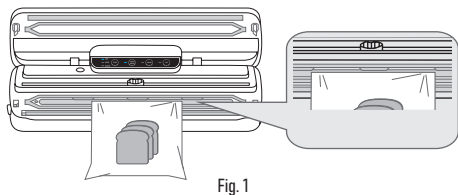
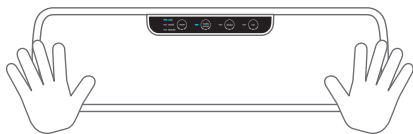

Fig. 1
Fig. 2
2. Open the appliance by pressing the top cover latches (8).
3. Place the edge of the bag to be made on the thermal tape surface (9) so that the bag is retained by the holders (12) (Fig. 1). Carefully close the top cover so that both side latches engage (Fig. 2).